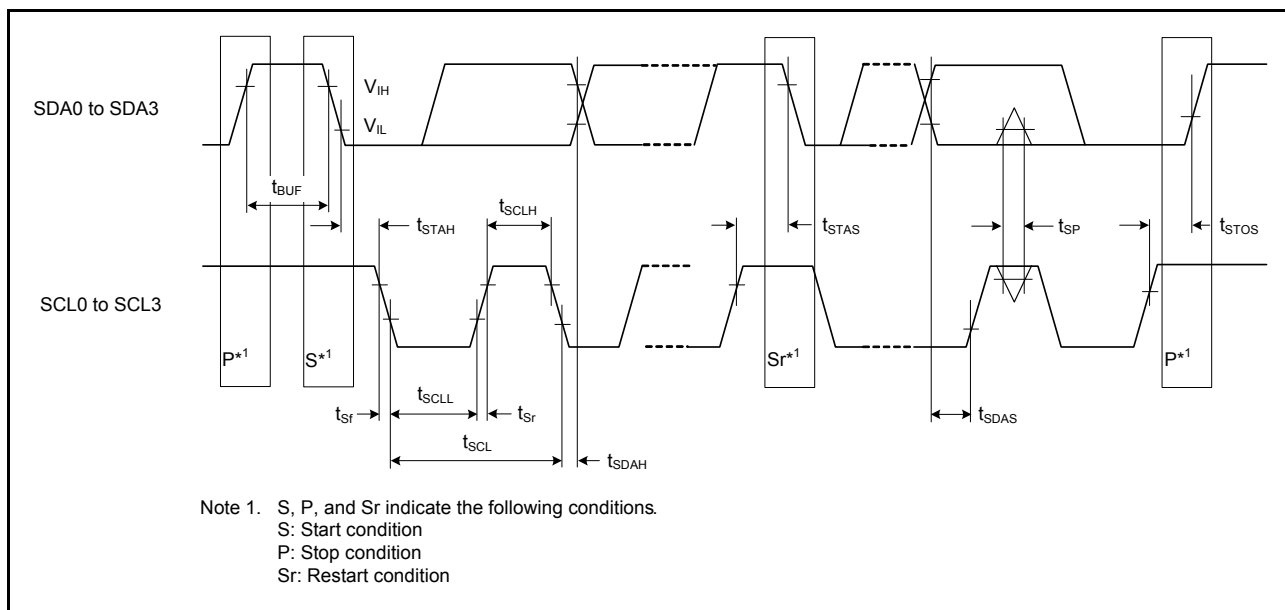

Figure 2.66 I2C bus interface input/output timing
| IIC (standard mode, SMBus) | SCL input cycle time | t_{SCL} | $6 (12) \times t_{IICcyc} + 1300$ | - | ns | Figure 2.66 |
| IIC (Fast mode) | SCL input cycle time | t_{SCL} | $6 (12) \times t_{IICcyc} + 600$ | - | ns | Figure 2.66 |